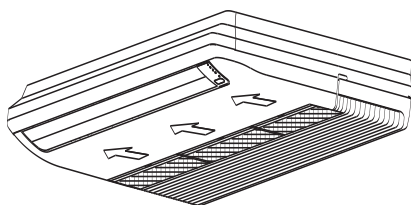

Fig.E3
1. Directly pull out the air filter from air inlet as indicated in Fig.E3.
3. Re-install the air filter in the reverse order of Fig.E3.